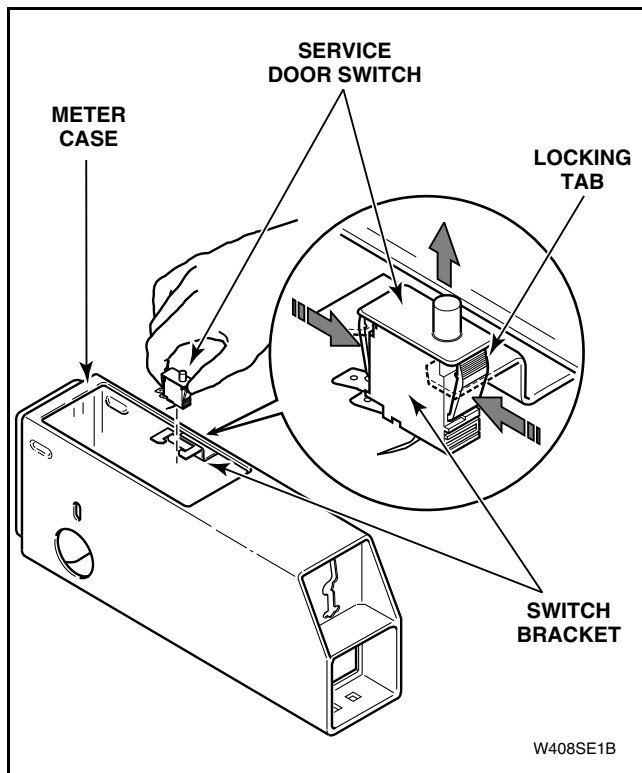

Figure 13
- (2) Disconnect wire harness from coin drawer switch and disconnect coin drop at disconnect plugs.
- (3) Press in on locking tabs of service door switch and remove switch from bracket on meter case, as shown in *Figure 13*.